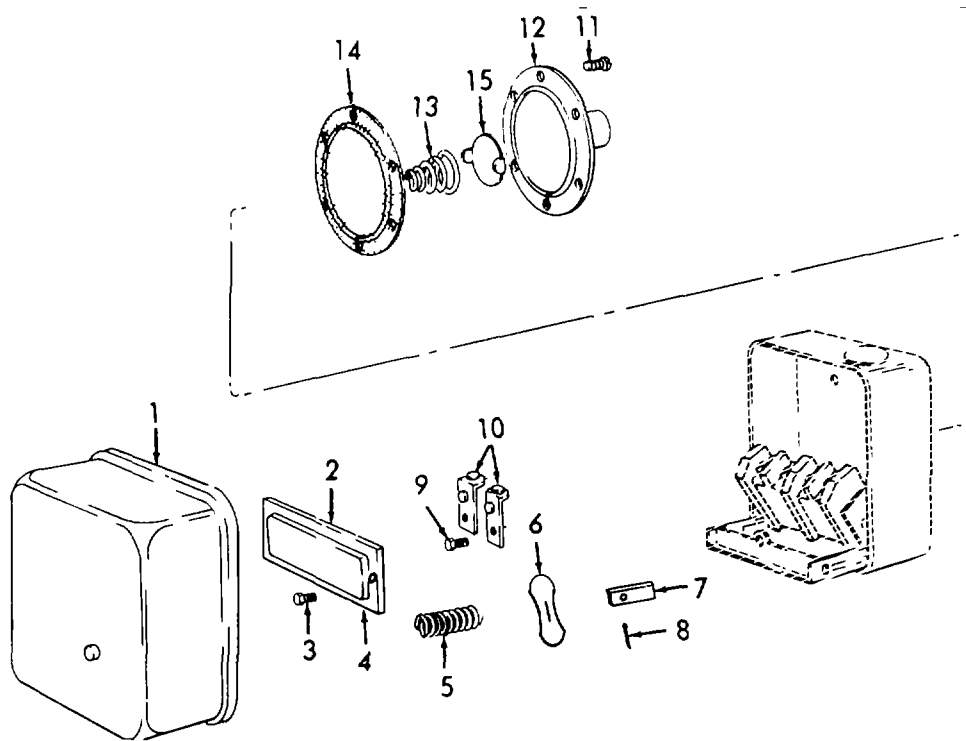

Figure 3-8. Pressure Switch Repair.
(1) Inspect for missing or damaged hardware.
(2) Inspect pressure switch for damage.
d. Repair. Repair of the pressure switch is limited to the replacement of the component parts contained in the pressure switch repair kit (refer to TM 5-4310-380-23P). Refer to Figure 3-8 and proceed as follows to repair the pressure switch.